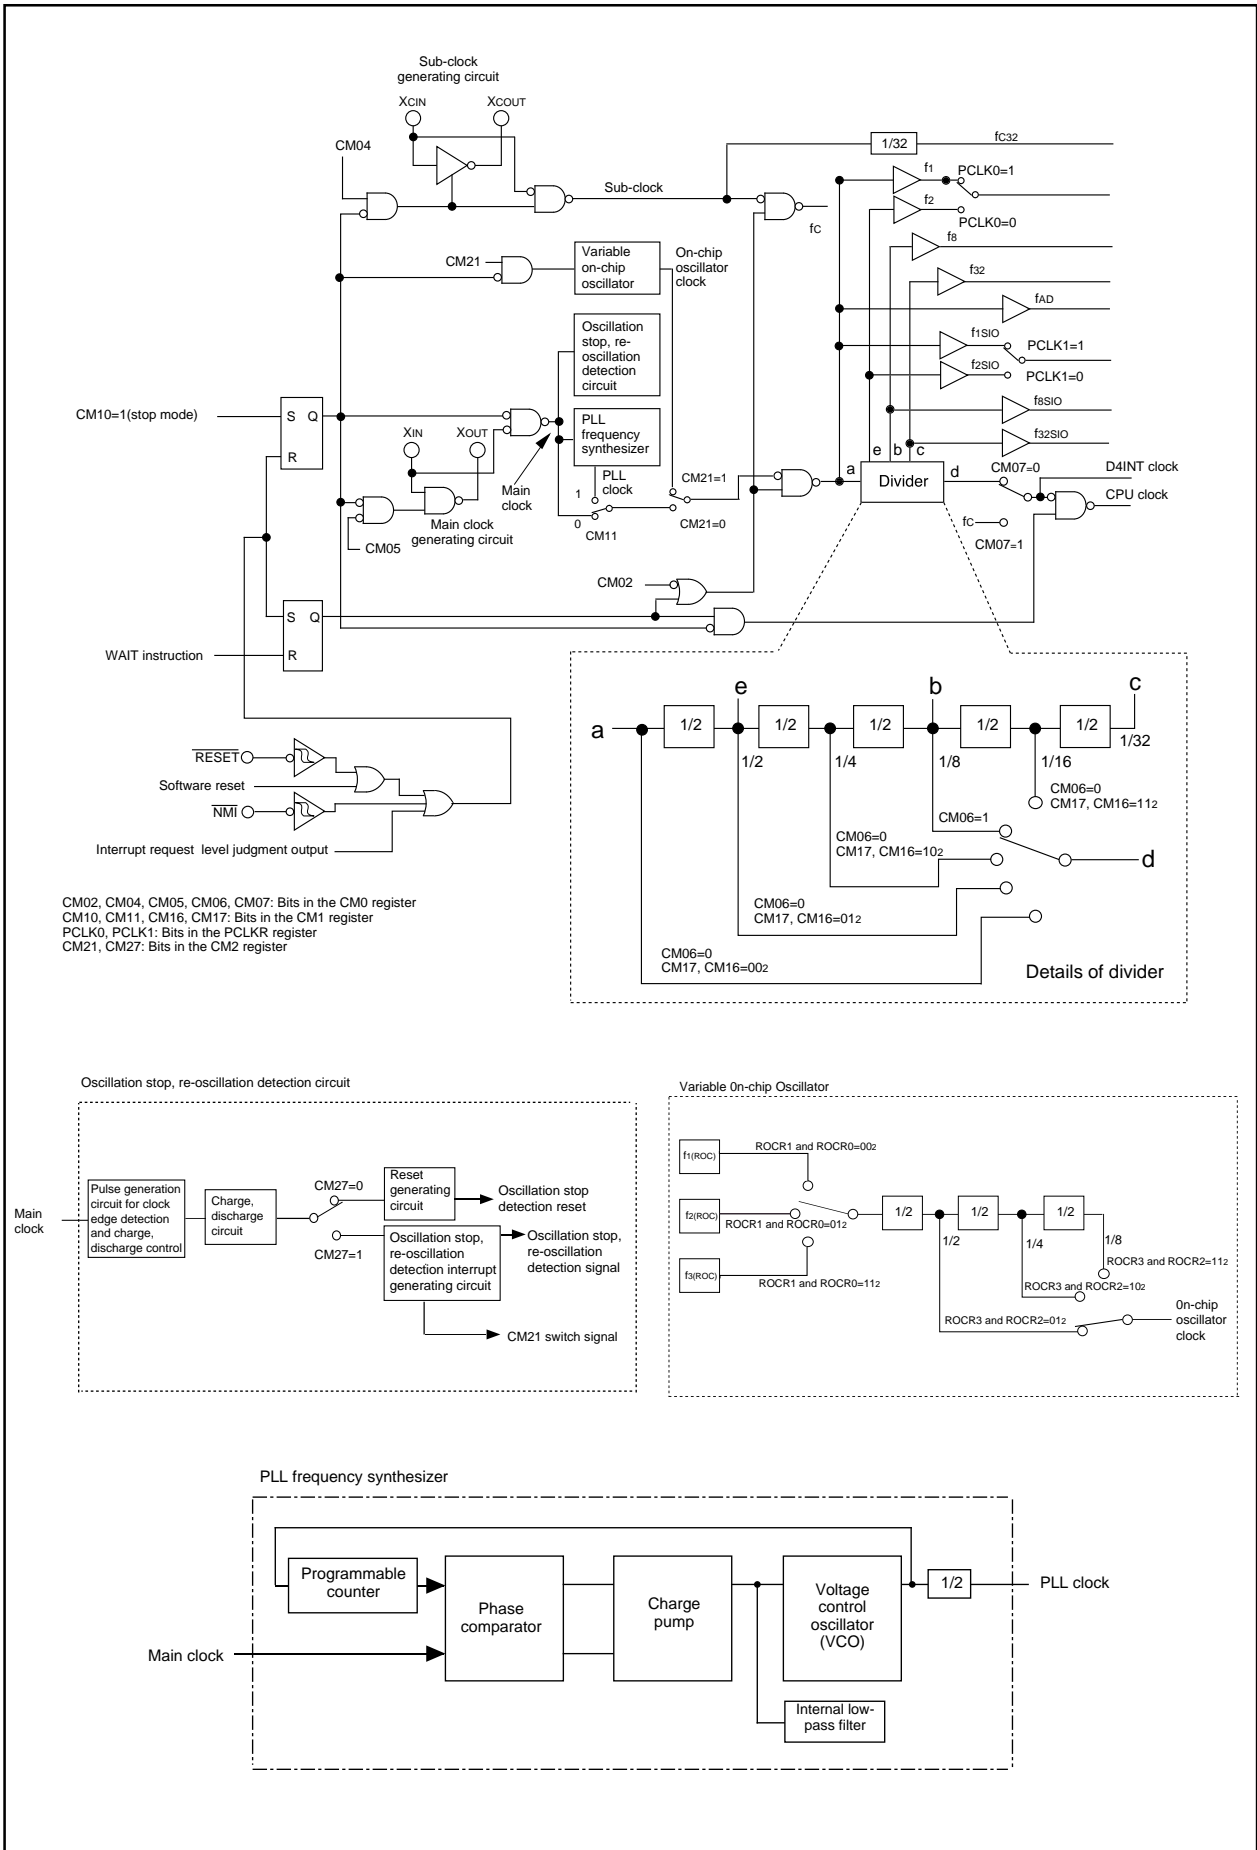

Figure 7.1 Clock Generation Circuit
- (1) Main clock oscillation circuit
- (2) Sub clock oscillation circuit
- (3) Variable on-chip oscillators
- (4) PLL frequency synthesizer
**Table 7.1** lists the clock generation circuit specifications. **Figure 7.1** shows the clock generation circuit. **Figures 7.2 to 7.7** show the clock- associated registers.